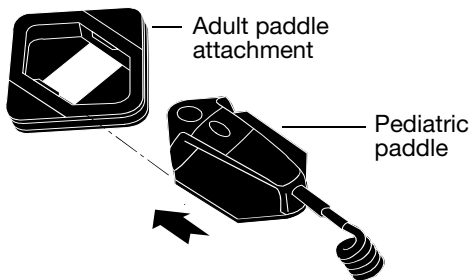

Figure 5-9 Replacing a Pediatric Paddle
- 3 Slide the paddle handle forward until you hear a click. (Refer to Figure 5-9.)